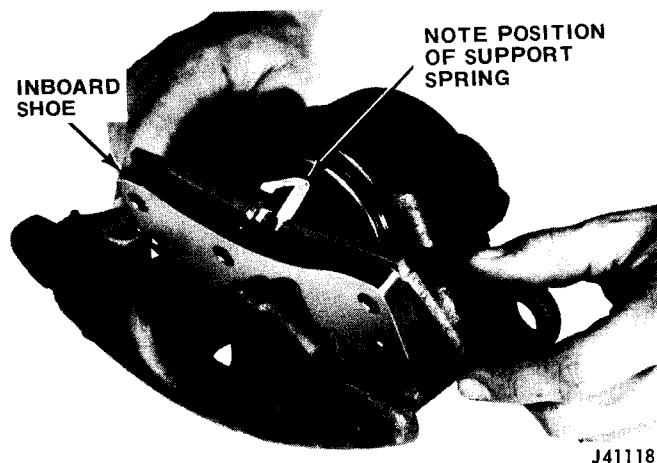

Fig. 9-32 Installing Inboard Brakeshoes
(13) Install inboard shoe in caliper (fig. 9-32). Shoe must lay flat against piston. Be sure support spring is fully seated in piston (fig. 9-32).